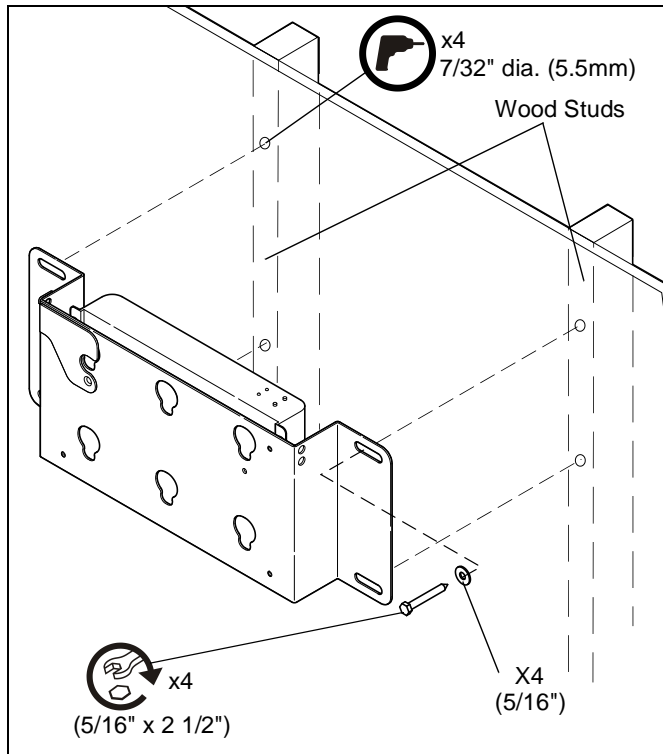

Figure 6
- Drill four 7/32" dia. (5.5mm) pilot holes at marks. (See Figure 6)